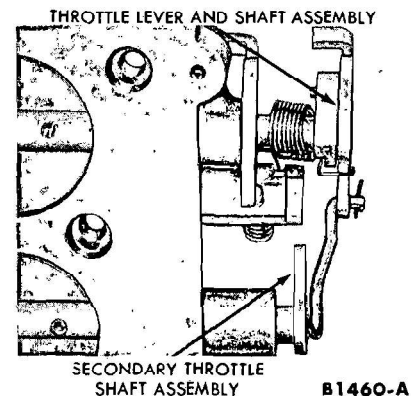

FIG. 17—Throttle Lever and Shaft Assembly Installation—Holley 4-V
Remove the primary throttle shaft return spring from the notch on the throttle shaft lever (Fig. 17). Slide the primary throttle lever and shaft assembly out of the throttle body. If necessary remove the accelerating pump cam.
4. Position the primary throttle return spring so that the small tang fits into the slot in the throttle lever and the long tang rests against the slot in the throttle body stop (Fig. 17).